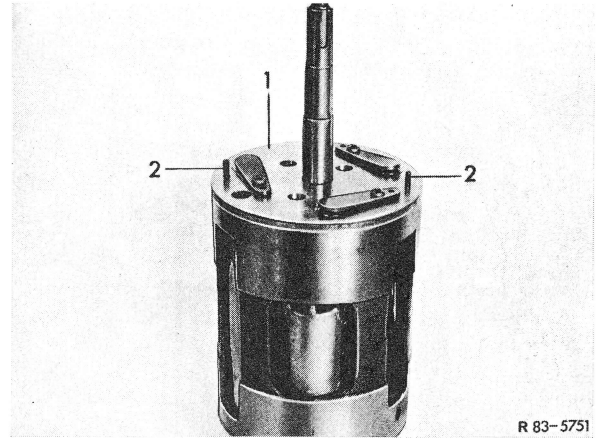

Figure 6
- 23** Install front discharge valve plate, aligning holes in valve plate with dowel pins (Fig. 6).